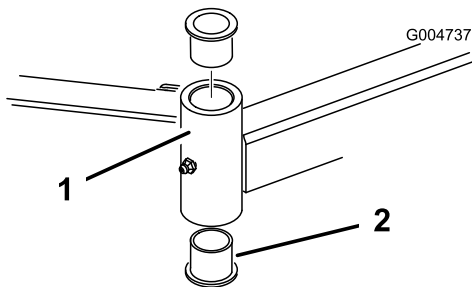

Figure 107
4. Insert a pin punch into the top or bottom of the mounting tube and drive the bushing out of the tube (Figure 107). Also drive the other bushing out of the tube. Clean the inside of the tubes to remove dirt.